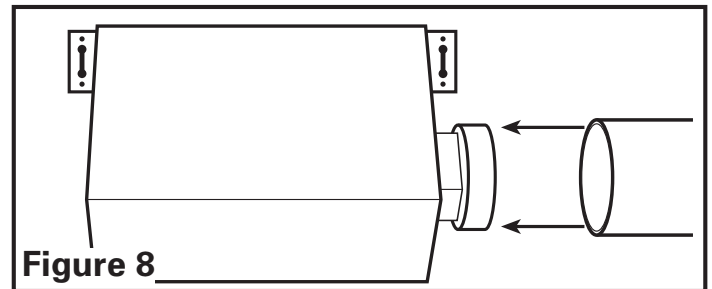

Figure 8
1. Remove any tape that might be holding the damper in place during shipping and connect the ducting to the fan's duct collar (**Figure 8**). Secure in place using tape or screw clamp. Always duct the fan to the outside through a wall or roof cap.